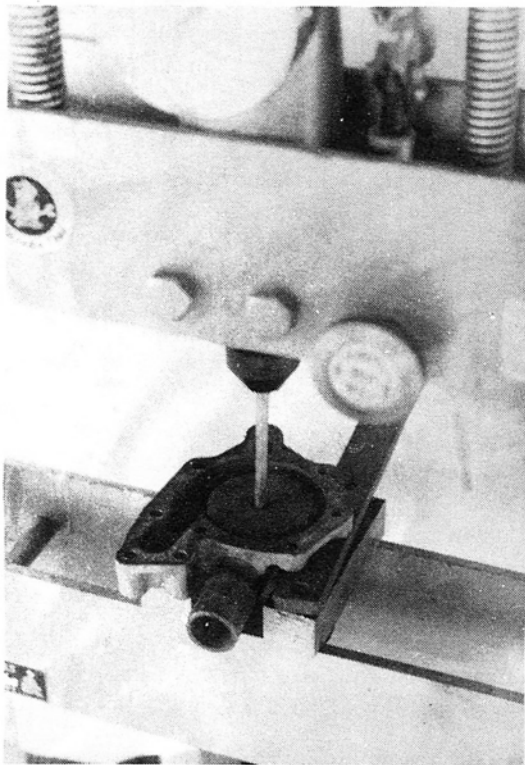

Figure 43
4. Using a press, remove the impeller and shaft from the pump casing, see Figure 43.